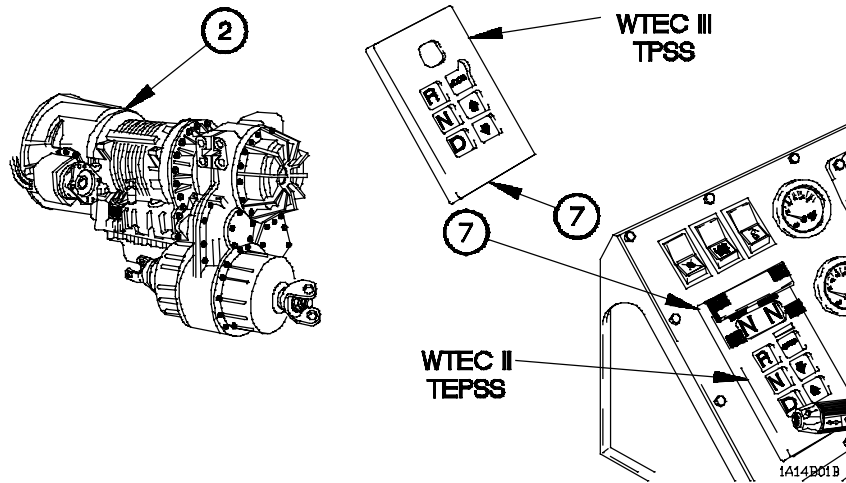

Figure 1-9. Powertrain (Cont)
b. Transmission. The vehicle is equipped with a fully automatic, electronically controlled, seven-speed close-ratio Allison transmission Model MD3070PT (2, Figure 1-9). The WTEC II Transmission ECU Pushbutton Shift Selector (TEPSS) has a velcro cover and the WTEC III Transmission Pushbutton Shift Selector (TPSS) does not have a velcro cover.
(1) The WTEC II TEPSS (7) or WTEC III TPSS (7) is located in the instrument panel, to the Operator's left.
(2) The transmission defaults to Neutral (**N**) whenever electrical power is removed from the vehicle. When electrical power is first supplied to the vehicle, the WTEC II TEPSS or WTEC III TPSS will momentarily display **MODE ON** in the LED display. **MODE ON** display will disappear and **N N** will be left in the LED display. This lets you know that the transmission is in highway mode and Neutral range (**N**).
(3) The Drive (**D**) gear selection is used for normal driving conditions. The transmission will engage 2nd gear when **D** is selected and the vehicle is stopped. The LED display will illuminate **7 2**, indicating that the transmission is in 2nd gear and there are seven forward gears available. Low gear (1st gear), is available only through manual selection by pressing the down arrow button until **1 1** is displayed in the LED display. You may manually downshift or upshift to a lower or higher gear range as required. However, the transmission will not downshift to a lower gear if the engine speed is too high for the gear selected. Selecting a specific gear; for example, 3rd; will prevent the transmission upshifting past the selected gear.